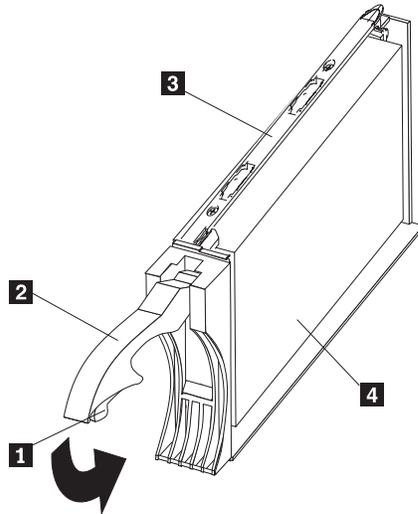

Figure 89. Releasing the drive latch
Note: The hard disk drive comes with a tray already attached. Do not attempt to detach the drive **4** from the tray **3**. See Figure 89.
- a. Release the blue latch **1** on the drive CRU by pressing on the inside of the bottom of the tray handle. See Figure 89.